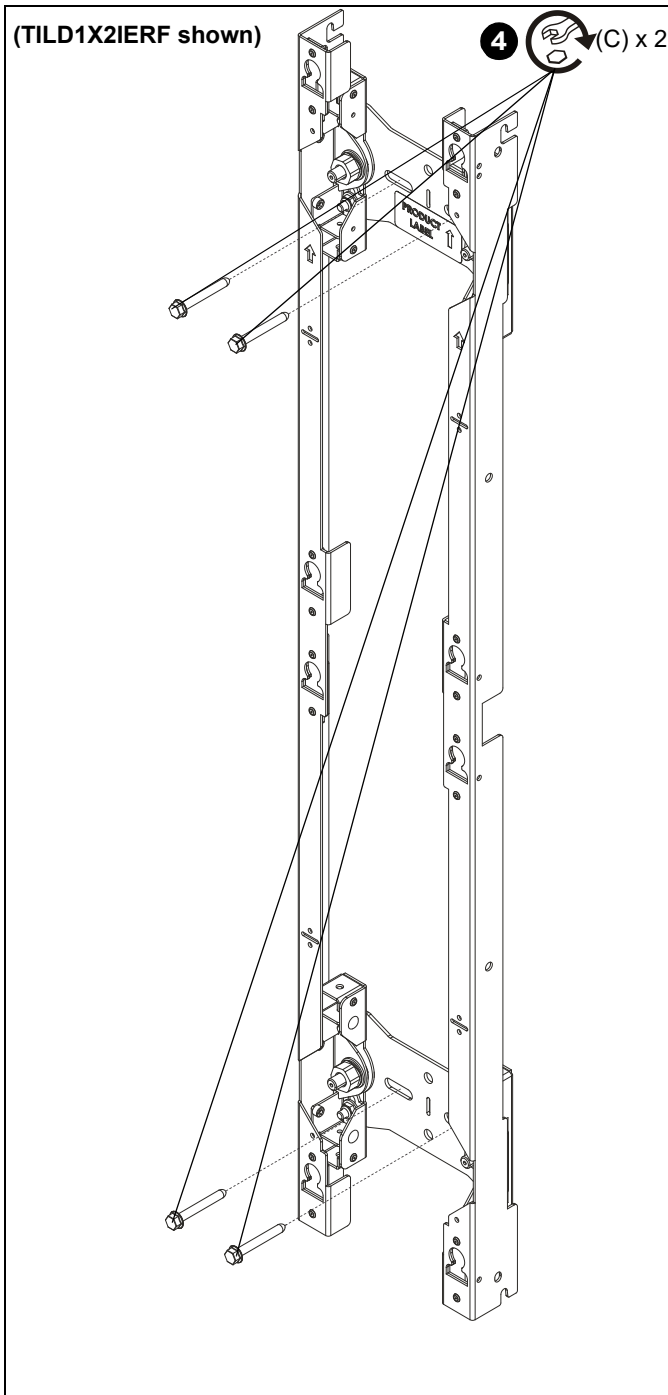

Figure 4
4. Install four lag screws (C) into wall. (See Figure 4)